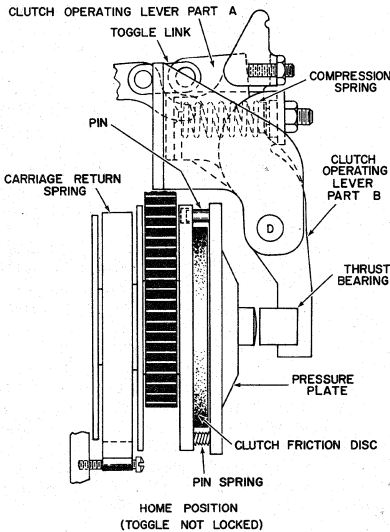

Figure 40
If the scale shows the adjustment is not within range, loosen the locking nut on the clutch operating lever part (B) and turn the slotted screw to change the adjustment (Figure 40). Turning the screw in will compress the compression spring, increasing the tension, and turning the screw out will decrease the tension of the compression spring and decrease the tension of the carriage return. Tighten the locking nut without changing the setting of the slotted screw and check the adjustment again. Re-adjust if necessary.